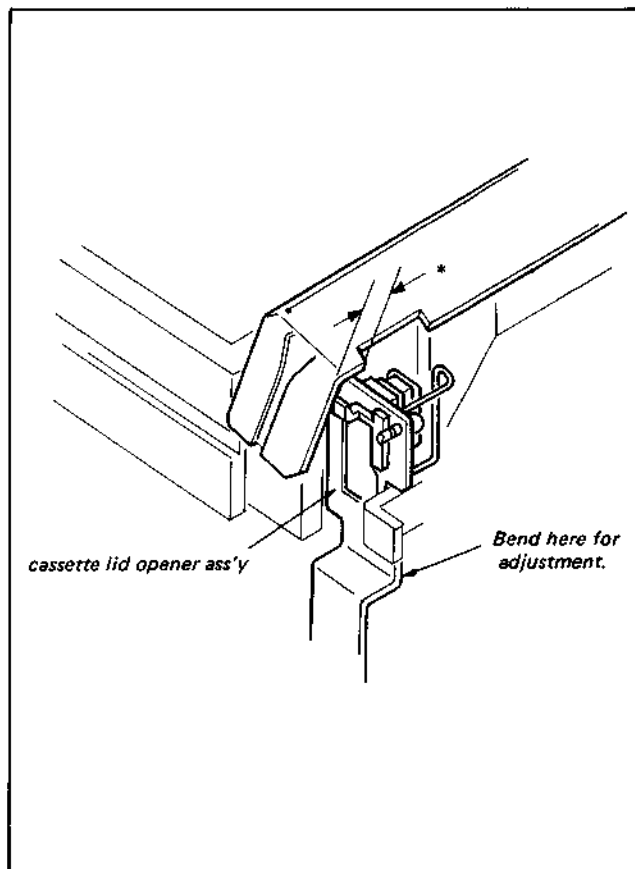

Fig. 3-28. Position adjustment of cassette lid opener metal (2)
- Bend the lower section of the cassette lid opener bracket so that the cassette lid opener bracket positions itself almost at the center of the space marked by asterisk (*) shown in Fig. 3-28, when the cassette is placed on the four position determining posts.